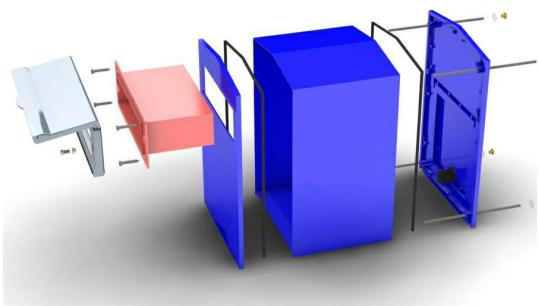

Fig 8
- Offer the container box over the chute and mark the locations of the securing holes. Remove the container, drill the holes with a 5.5mm drill and insert the rawl plugs. Seal any gaps between the chute and the brick wall with silicon. *Fig 7*. Place a bead of silicon around the chute hole and the top and sides of the collection box, do not seal the bottom edge. *Fig 8*. Locate the collection box over the chute and secure using the screws provided. Ensure that the silicon bead between the wall and container makes a good seal. Finally seal around the top and sides where the collection box meets the wall. Do not seal the bottom edge.